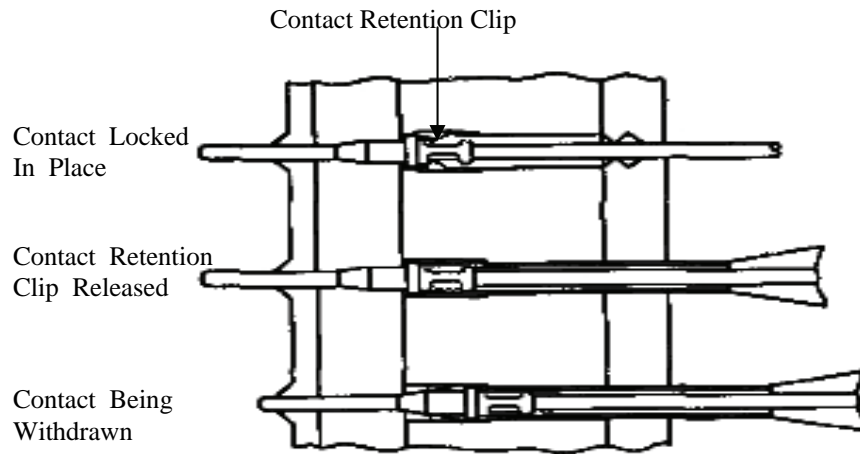

Figure 18. Unlocking Contact Mechanism
- d. Insert tool into contact cavity until tool tip bottoms against contact shoulder (Figure 18). A slight increase in resistance will be noticed just before the tool tip bottoms. This will spread the retention clip and release its hold on the contact.